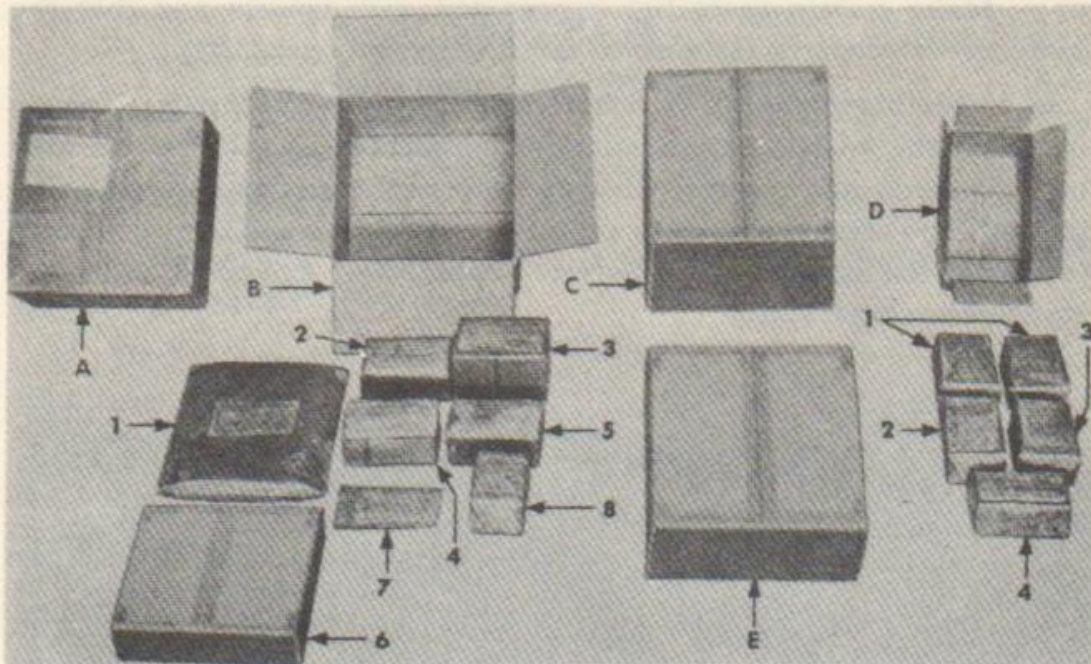

FIGURE 11. EQUIPMENT AND SPARE PARTS—PACKED ITEMS
b. Equipment and Spare Parts—Packed Items (fig. 11).